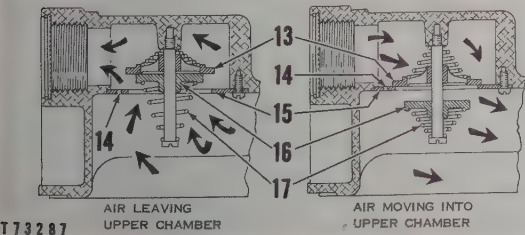

FIG. 2. DETAIL A-VENT VALVE OPERATION
As diaphragm assembly (7) is forced upward, air is expelled from the upper chamber (Fig. 2). This movement of air forces lower flapper (16) upward,
As diaphragm assembly (7) moves downward, air rushes inward to fill the partial vacuum created in the upper chamber (Fig. 2). This forces upper flapper (13) down against orifice plate (15). Air going through webs in upper flapper opens lower flapper (16) and fills upper chamber.